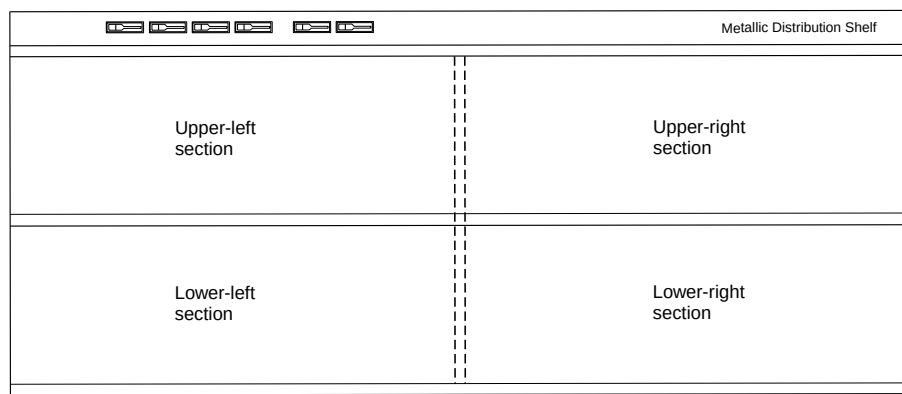

Figure 1 – MDS Assembly Sections
20. Remove all channel units from the MDS assembly section affected. See Figure 1 for MDS assembly sections.